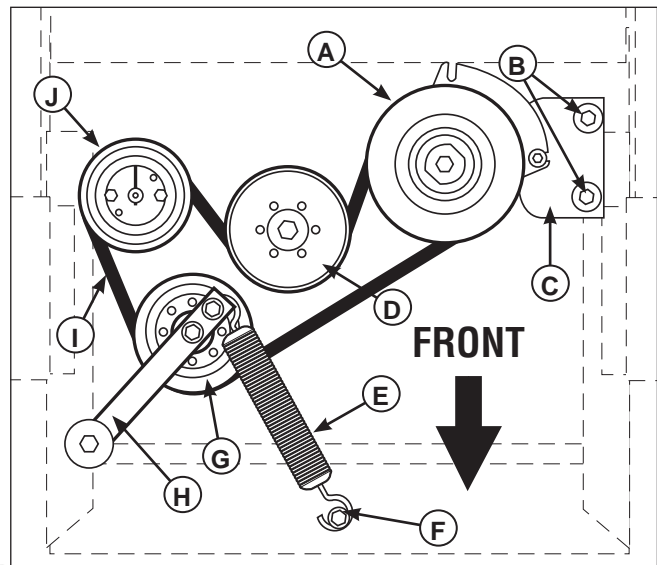

Figure 23. Pump Drive Belt (S/N: 2015675570 & Below)
3. Remove the clutch anchor bolts (B, Figure 23) that fasten the clutch anchor pad (C) to the anchor.
5. Push the idler arm forward and remove the belt tension spring from the spring anchor bolt (F).